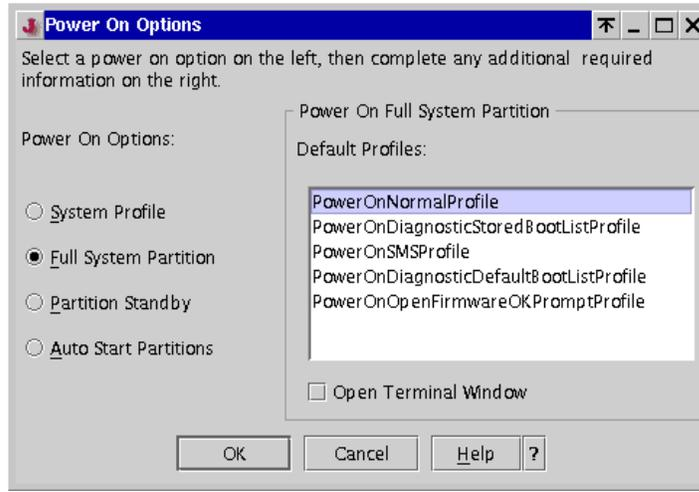

Figure 5-6 Power On Modes panel
To power on the managed system, open the Server Management application from the Server Management folder and select the managed system in the Contents area. From the menu bar choose **Selected** → **Power On**. A panel opens that offers the four power-on modes shown in Figure 5-6 on page 158: System Profile, Full System Partition, Partition Standby, and Auto Start Partitions.⁷
- Full System Partition** Only one AIX operating system image is activated that has access to all resources of the managed system. The operator panel on the media drawer displays all progress codes during the boot process. The Full System Partition has predefined profiles, as shown in Figure 5-6. You cannot change, add, or delete them. The predefined profiles are as follows: